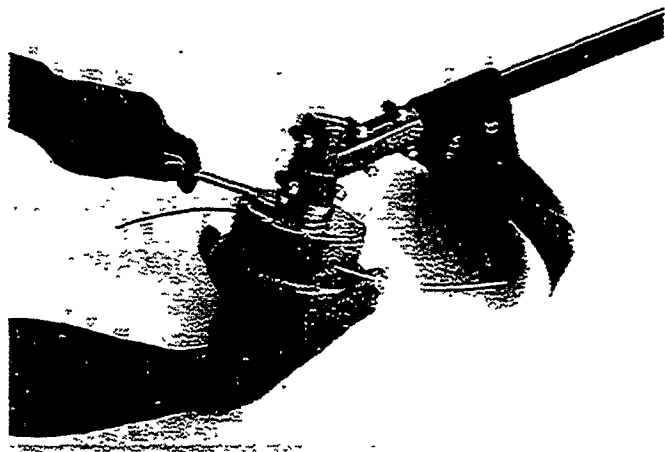

Figure 5
- While holding holder (B) with large spanner wrench, thread rotary head onto gearcase as shown in (Figure 5). Tighten rotary head as tight as possible by hand.